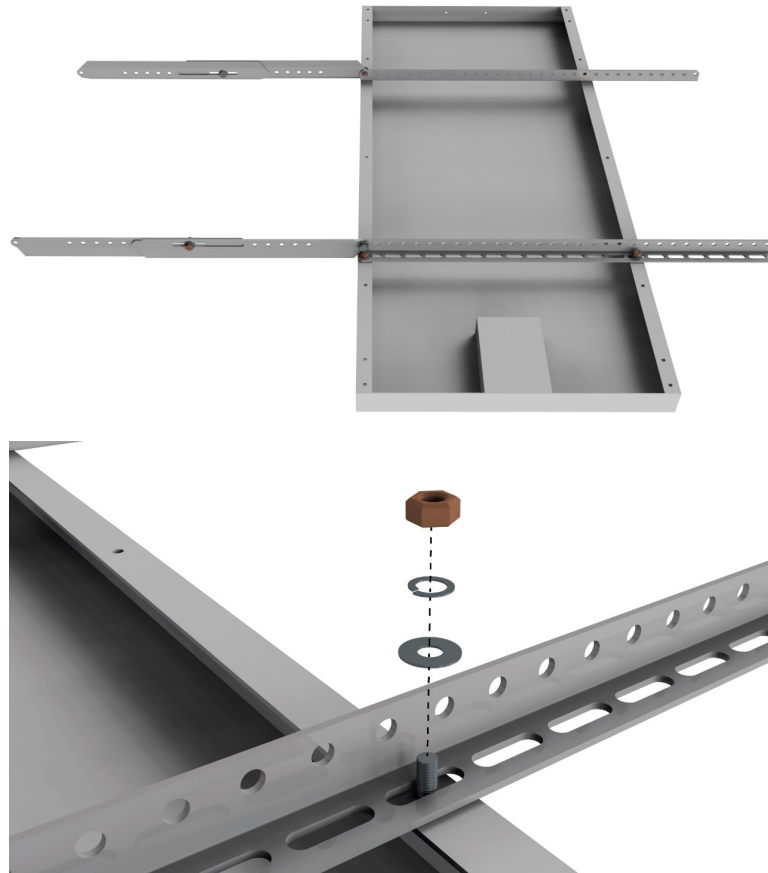
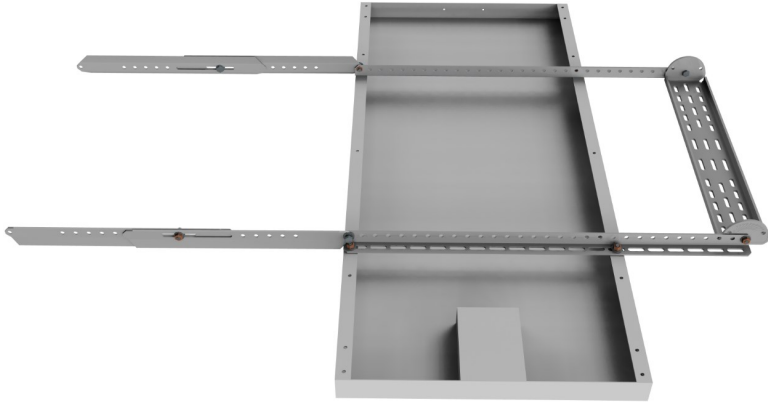
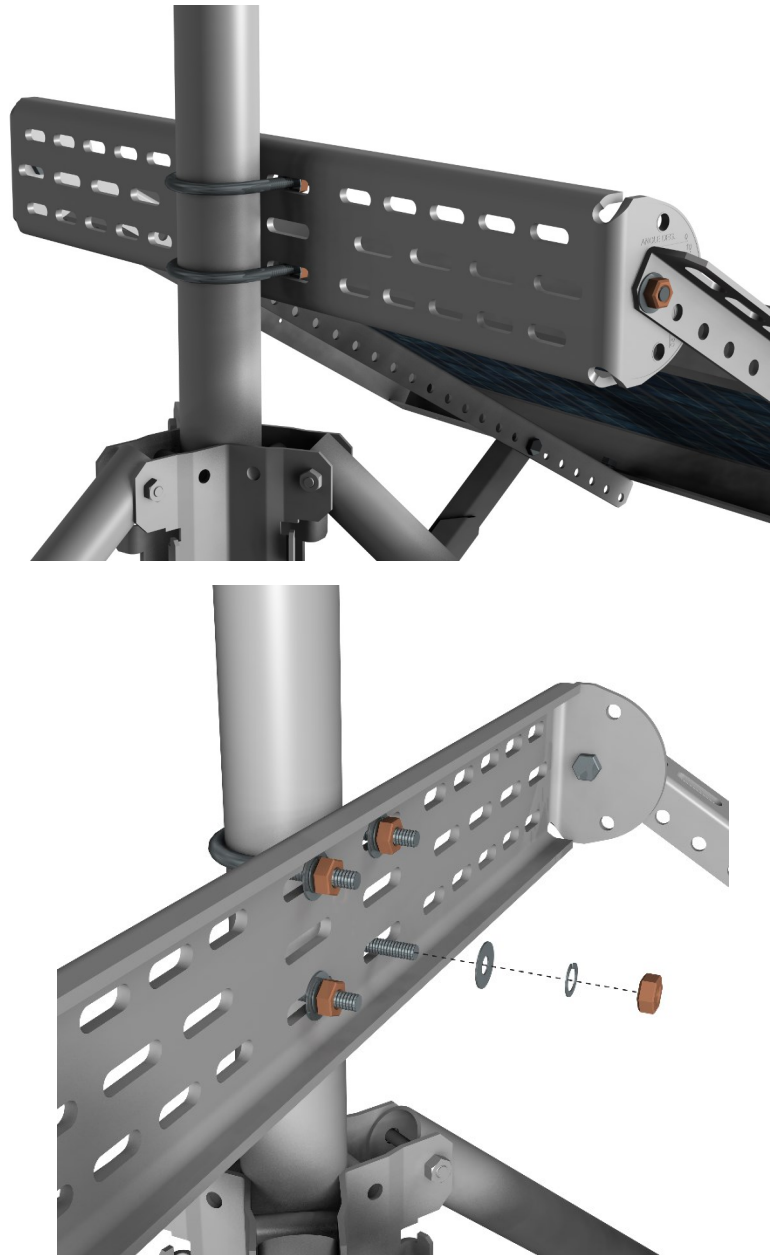

FIGURE 3-9. Attaching mounting arms
FIGURE 3-10. Attaching the upper mount bracket
FIGURE 3-12. Attaching the upper mount bracket to the mast
2. Place one of the extended mount brackets along the edge (FIGURE 3-8 (p. 8)) to determine which set of holes in the solar panel frame will be used to mount the arms. The correct holes will be just outside of the bracket. For the SP10 and SP20, the arms will mount along the outside edges of the solar panel (see FIGURE 3-10 (p. 10) and FIGURE 3-12 (p. 11)). Set the bracket aside.
- Determine which edge of the solar panel will be the bottom edge. Place one of the arms so the end with the attached struts is at the bottom (FIGURE 3-9 (p. 9)). Attach each arm with two bolts, washers, lock washers, and nuts. Do not fully tighten the nuts. Repeat for the second arm.
- 4. Locate the upper mount bracket with the angle decal on one end. Remove the nut, lock washer, and washer from each end of the bracket and orient the bracket as shown in FIGURE 3-10 (p. 10). Pass the bolts through the bracket and the last hole on each extended mount arm, and then replace the washer, lock washer, and nut on each bolt (see FIGURE 3-9 (p. 9)).
6. (If mounting the solar panel on a tower, go to step 8.) With the help of a second person, hold the upper bracket against the tripod mast (FIGURE 3-12 (p. 11)). Use U-bolts, washers, lock washers, and nuts from the hardware bag labeled 'Tripod' to mount the bracket to the mast. Use a torpedo level to ensure the bracket is level. Fully tighten the nuts on both U-bolts.